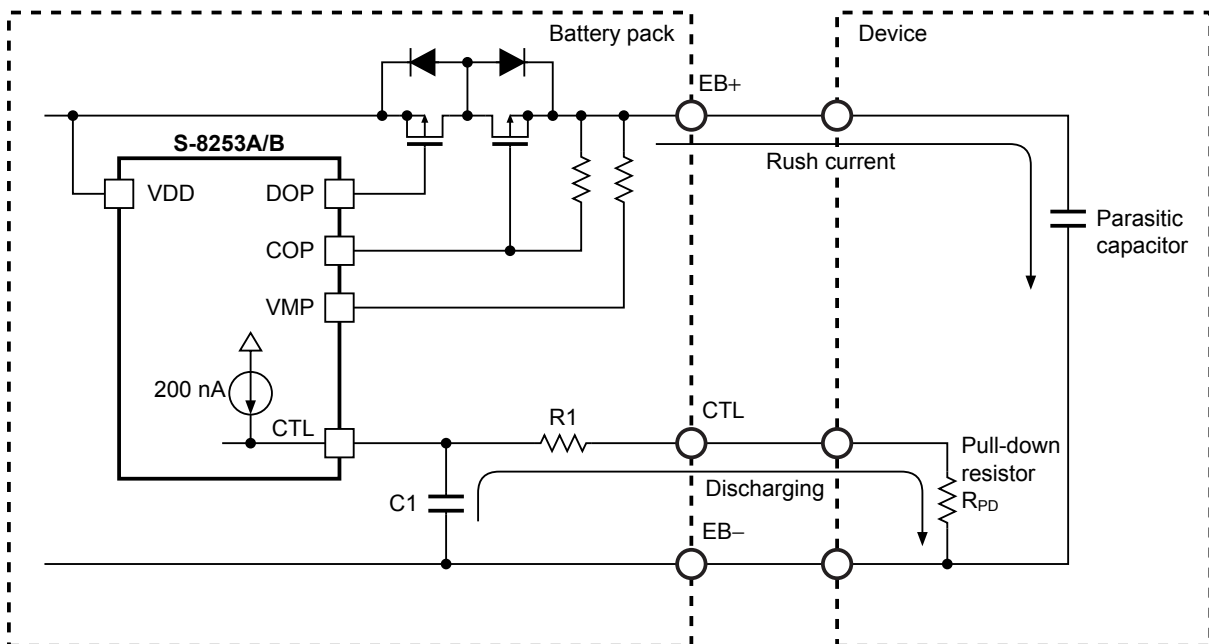

Figure 15
- In case of designing a circuit by using the CTL pin, as seen in **Figure 15**, note that discharging may stop during connecting a battery pack and the device.
As seen in **Figure 15**, before a battery pack is connected to the device, the battery pack may be in the charge / discharge inhibited status in which the CTL pin is internally pulled-up. From this status, if connecting the battery pack to the device, the CTL pin will be pulled-down in a time-constant $C1 \times (R1 + R_{PD})$ by a pull-down resistor in the device. If the CTL's potential reaches $V_{CTL} < V_{CTL} < V_{CTLH}$, the battery pack goes in the delay time-shortening status so that it releases charging and discharging, hence it starts charging a parasitic capacitor in the device. In this case, if the rush current, which makes the S-8253A/B Series to detect the overcurrent detection voltage 3 (V_{IOV3}), flows into the device, the overcurrent detection delay time 3 ($t_{IOV3} = 300 \mu s$ typ.) will be shortened. So that the battery pack goes in the overcurrent status in several 10 μs . However, the battery pack goes in the normal status by connecting the device to the charger.